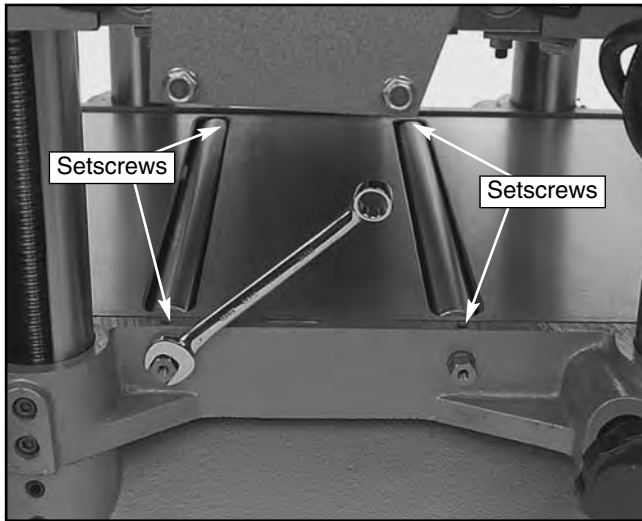

Figure 24. Adjusting bed roller height.
3. Loosen the setscrews on both sides of each bed roller. See **Figure 24**.